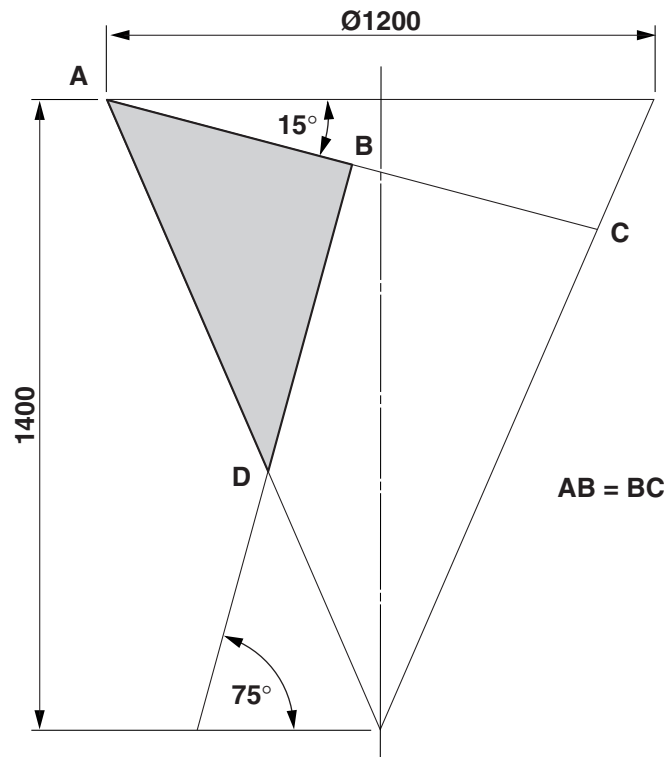

Fig. 3
- 3 The chute **ABD** of a 'ready-mix' concrete delivery truck consists of part of a regular cone as shown in Fig. 3. The chute, which is made from sheet metal, is symmetrical about the horizontal axis in plan.